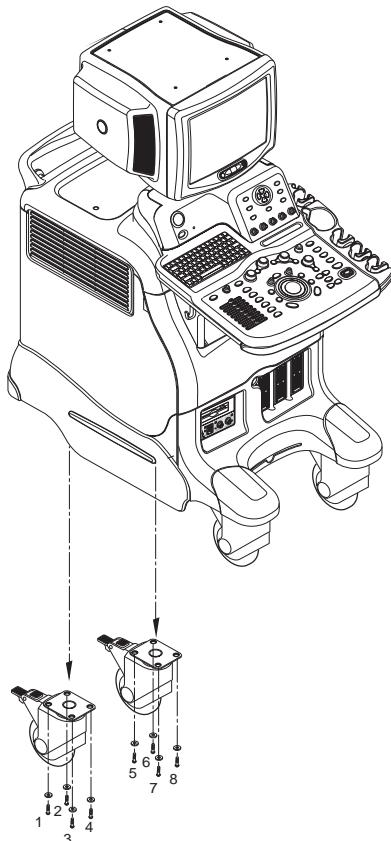

Figure 8-76 Removing the Rear Caster
- 2.) Remove the Rear Caster. Refer to Figure 8-76.